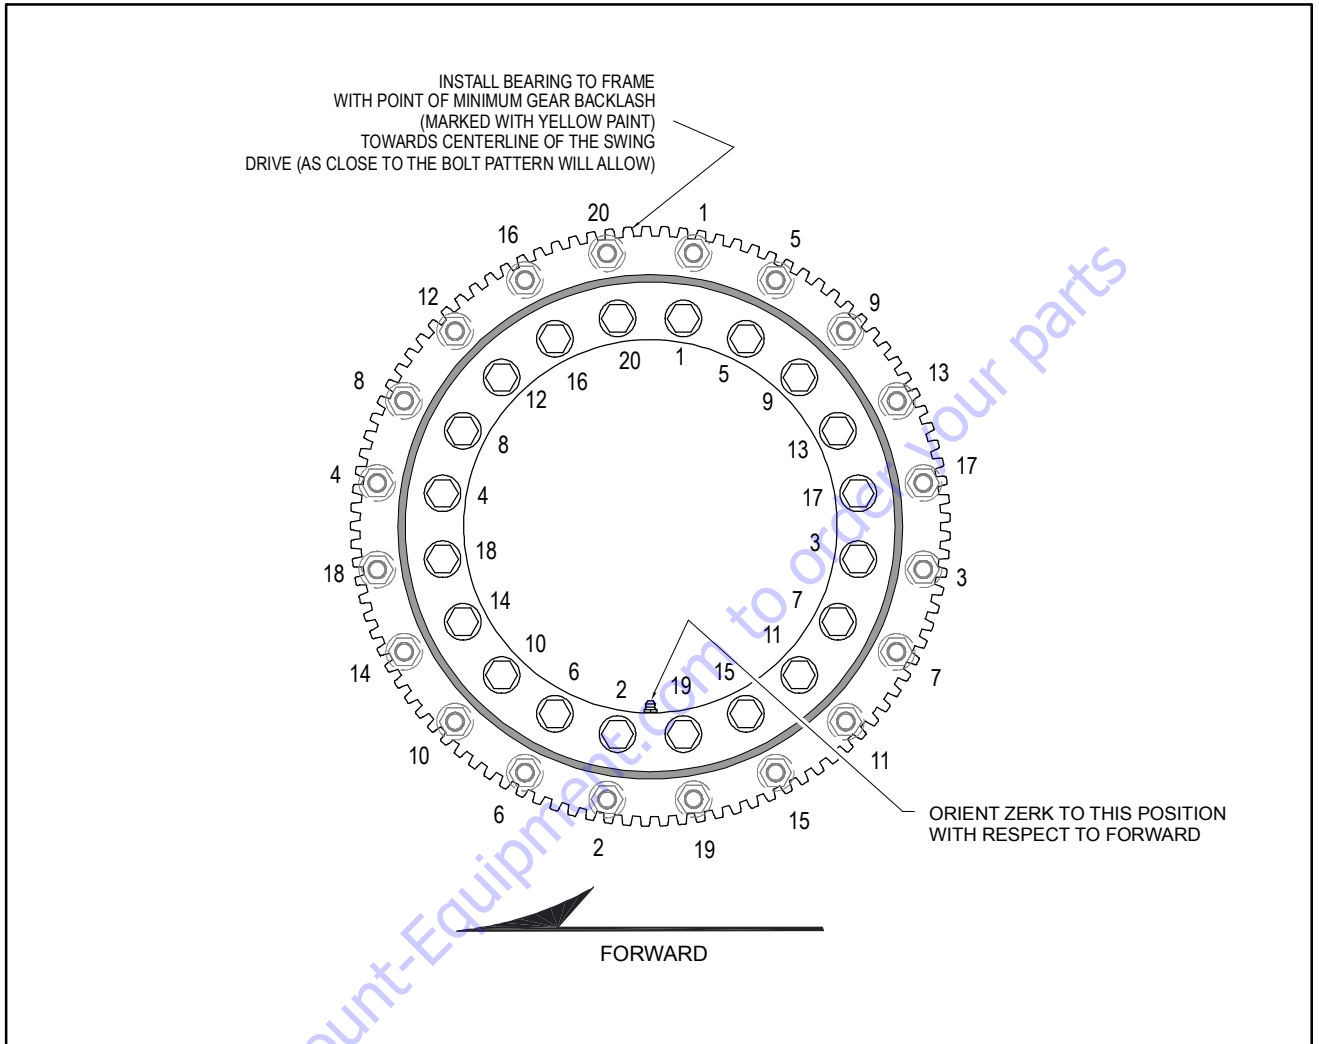

Figure 3-63. Swing Bearing Torque Sequence
3. Refer to the Torque Sequence diagram as shown in Figure 3-63., Swing Bearing Torque Sequence. Clean any residue off the new bearing bolts, then apply a light coating of High Strength Threadlocking Compound and install the bolts and washers through the frame and outer race of the bearing. Tighten the bolts to an initial torque of 190 ft. lbs. (258 Nm) w/High Strength Threadlocking Compound.
8. Following the Torque Sequence diagram shown in Figure 3-63., Swing Bearing Torque Sequence, tighten the bolts to a torque of 190 ft. lbs. (258 Nm).